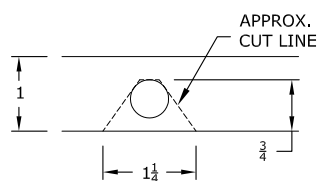

FIGURE A3
8. Modify bed flange. Cut a notch in the bed flange just above the frame in the passenger side rear wheel. Locate the 7/16" hole in this flange above the axle and enlarge the hole by removing the metal below the hole so that a notch is created, See figure A3 & A4. This will allow the rear cross member to be installed.